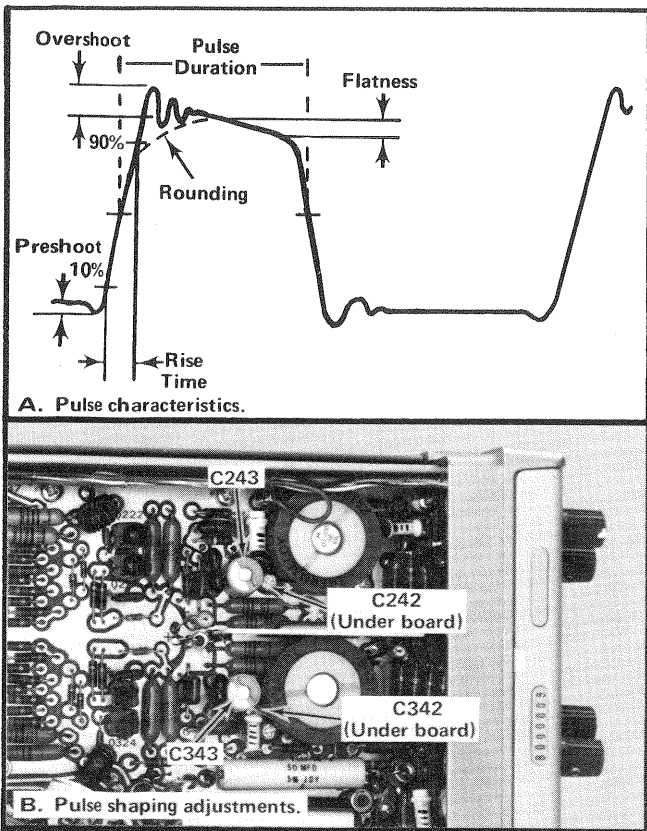

Fig. 5-15. Pulse shape characteristics and adjustments.
e. CHECK—The pulse shape for the degree of preshoot, overshoot and ringing, rounding, and the flatness of the pulse top and baseline see Fig. 5-15. Pulse aberrations must not exceed 3% of the pulse amplitude (1.5 div.) or 100 mV whichever is greater.
f. ADJUST—C243 and C242 (Fig. 5-15) for optimum pulse shape. C243 adjusts the front corner of the positive-going pulse and C242 adjusts the region 5 ns after the front corner.
i. ADJUST—C343 and C344 (Fig. 5-15) for optimum pulse shape. C344 adjusts the front corner of the negative-going pulse and C342 affects the first 5 ns after the front corner.